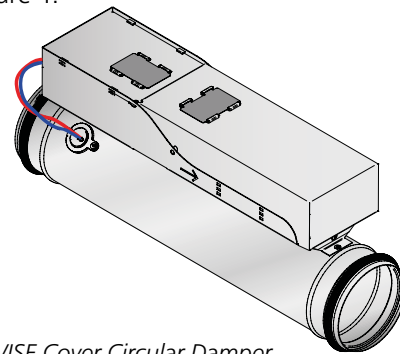

Figure 1. WISE Cover Circular Damper.
- WISE Cover Circular Damper, cover for visible installation, see figure 1.